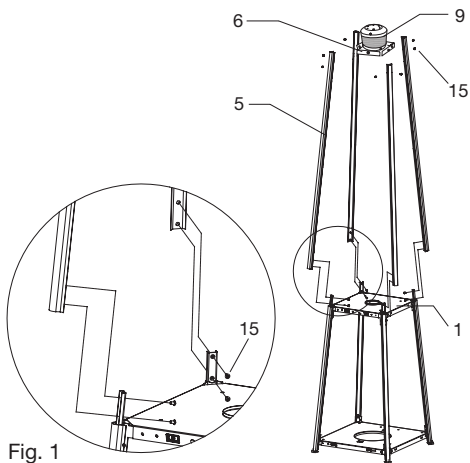

Fig. 1
Remove the screws (15) from each of the upper support posts (5), using them to attach to the middle plate (1) from the inside. (Fig. 1)